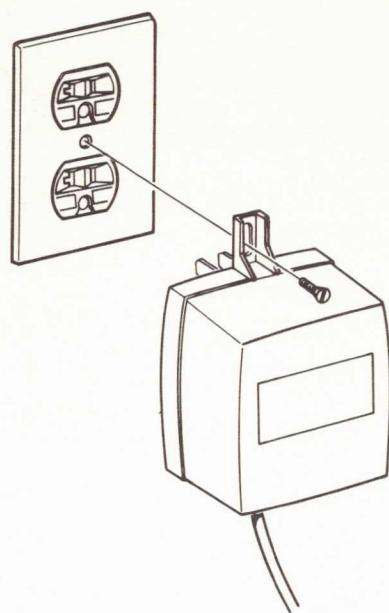

Figure 2-3
- To insure that the power supply remains permanently connected, remove the plate screw from the wall outlet and use it to mount the power supply. Refer to Figure 2-3.